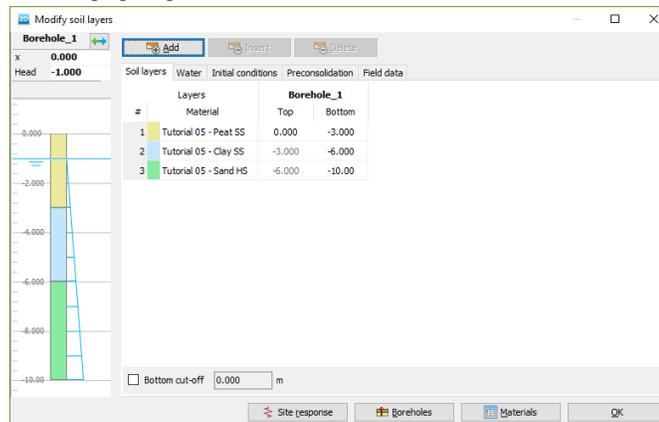

Figure 57: Soil layer distribution
2. Create soil material data sets according to Table 12 (on page 72) and assign them to the corresponding layers in the borehole (see Figure 57 (on page 71)).